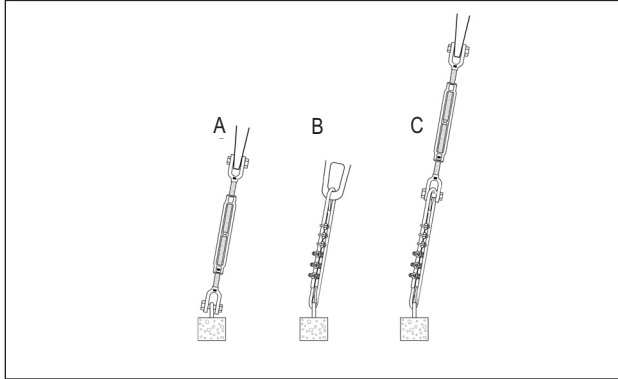
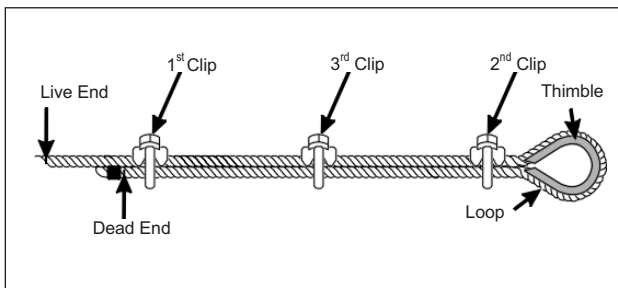
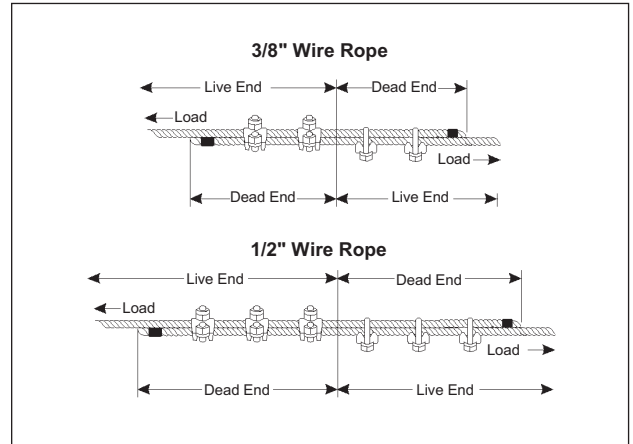

FIGURE 6-3
FIGURE 6-4
FIGURE 6-5
6.6.6. The installer is responsible for using appropriate and approved engineering practices when fastening wire rope. Refer to recommendations of wire-rope manufacturer and supplier, and follow accepted industry standards when selecting, using, attaching or connecting wire rope. (See FIGURE 6-3, FIGURE 6-4 and FIGURE 6-5.)
6.6.7. When connecting the end of a hold-down strap to the anchor, common methods (shown in FIGURE 6-3) are using a drop-forged turnbuckle (see A), using a looped wire rope (see B), or using a combination of both (see C).
6.6.11. Apply the first clip at a distance from the dead end of the wire rope that is equal to the largest width of the clip used. (See FIGURE 6-4.)
6.6.12. For each clip, apply a U-bolt over the dead end of the wire rope. (See FIGURE 6-4.) (Note: Live end rests in saddle.)
6.6.13. When two clips are required, apply the second clip as close to the loop or thimble as possible. (See FIGURE 6-4.)
6.6.14. When more than two clips are required, apply the second clip as close to the loop or thimble as possible, turn nuts on second clip firmly, but do not tighten initially. (See FIGURE 6-4.)
6.6.17. If forming a loop in the wire rope, a splice is required for connecting the two ends together. Standard rigging practice for splicing wire rope calls for using twice the number of clips recommended for a single-end termination. Use a minimum of four clips for a 3/8-inch wire rope and a minimum of six clips for a 1/2-inch wire rope. Place the rope ends parallel to each other and install the clips as shown in FIGURE 6-5.